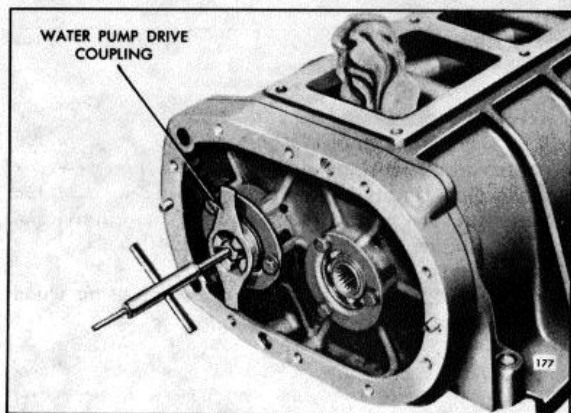

Fig. 3 - Removing Water Pump Drive Coupling Bolt from Blower Rotor Shaft
1. Remove the ten bolts and lock washers securing the end plate covers (28) and (29) to the blower front and rear end plates. Tap the ends of the end plate covers with a plastic hammer to loosen the covers from the gaskets and dowel pins in the end plates. Then, remove the covers and gaskets from the end plates.
2. Place a clean folded cloth between the rotors to prevent the rotors from turning. Then, remove the bolt securing the water pump drive coupling to the blower rotor shaft as shown in Fig. 3.